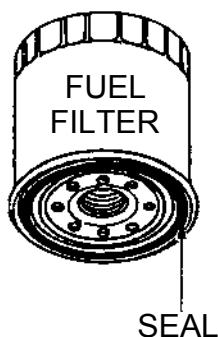

Figure 26. Fuel Filter
1. Set a container under the fuel filter cartridge (Figure 26) to catch spilled fuel.